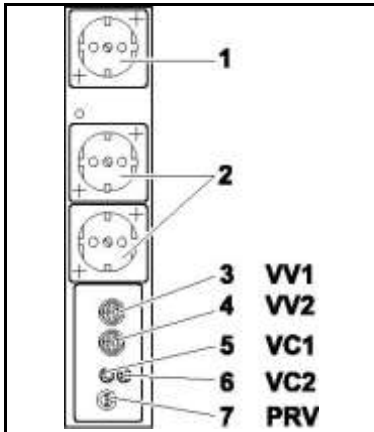

Fig. 10: Connections of the electrical supply unit
1. Connect signal socket of the vacuum controller with the electrical supply unit socket marked VC 1 (fig. 10/5) using the connection cable.
2. When using two vacuum controllers, connect the second vacuum controller's signal socket to the electrical supply unit's VC2 connection (6).
3. Insert the vacuum controller power cord plug into the designated electrical supply unit socket (2).
4. When using two vacuum controllers, insert the vacuum valves' plugs into the electrical supply unit's VV1 (3) und VV2 (4) connections.
5. Insert the pump vent valve plug into the electrical supply unit socket marked PRV (7).
6. Insert the vacuum pump power cord plug into the designated electrical supply unit socket (1).
2. Insert the coolant valve’s plug into the vacuum controller’s VV1 socket (see fig. 10/3).